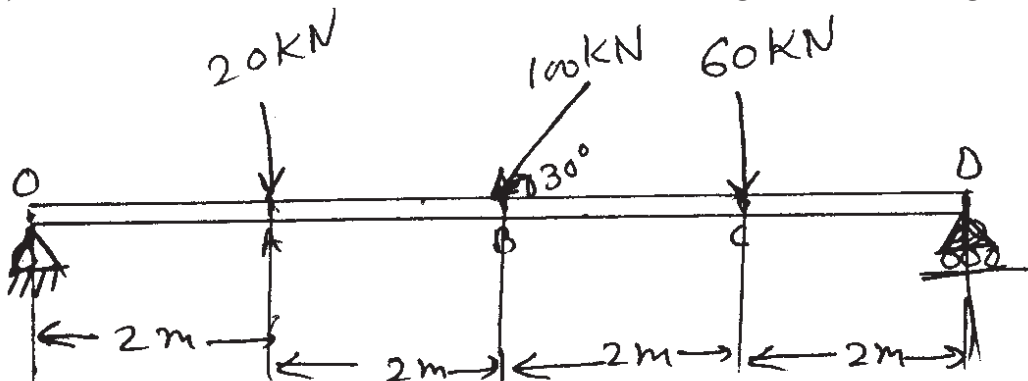

Figure 1
- Q3)** a) Draw SFD and BMD for the beam with loading as shown in figure 1. [8]